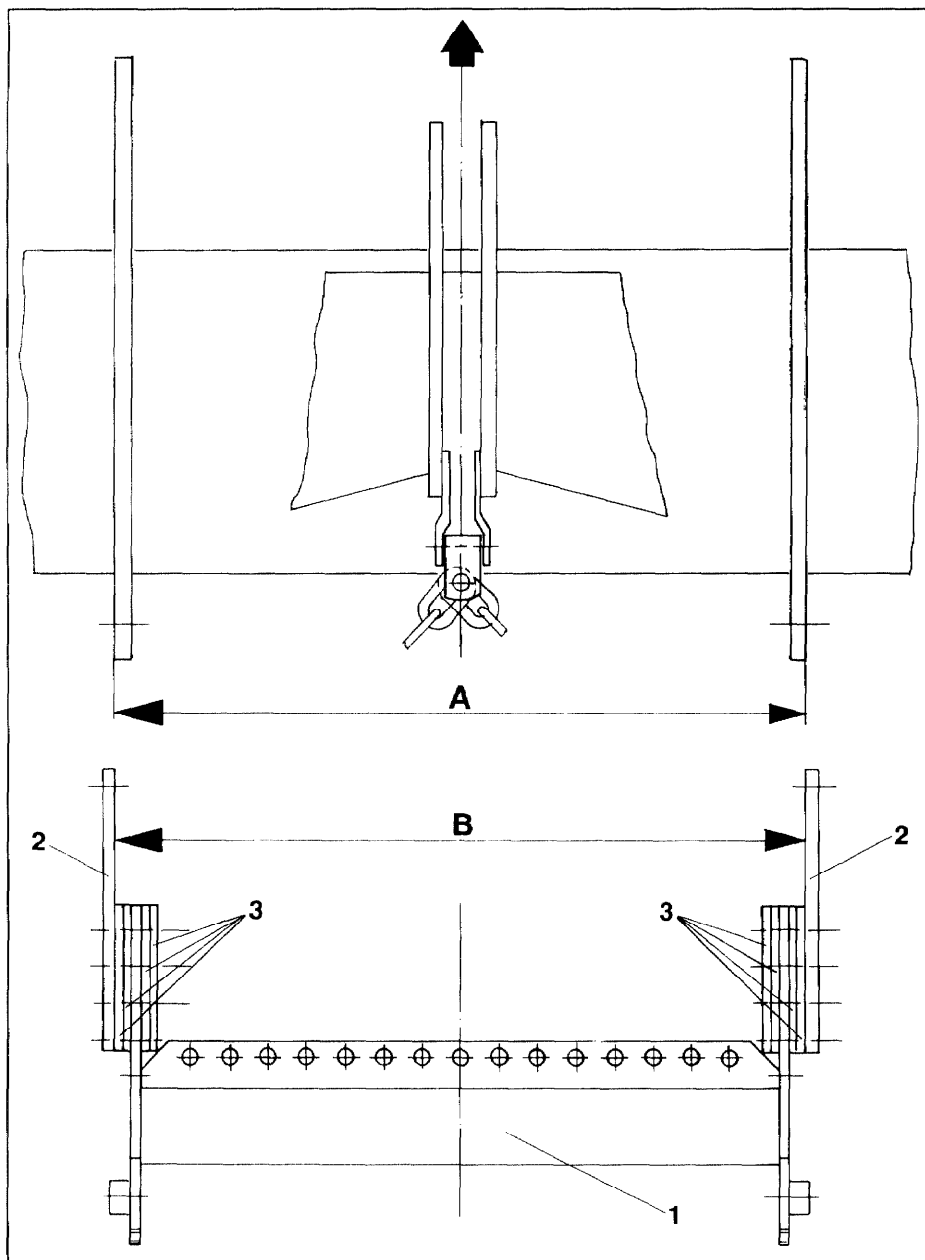
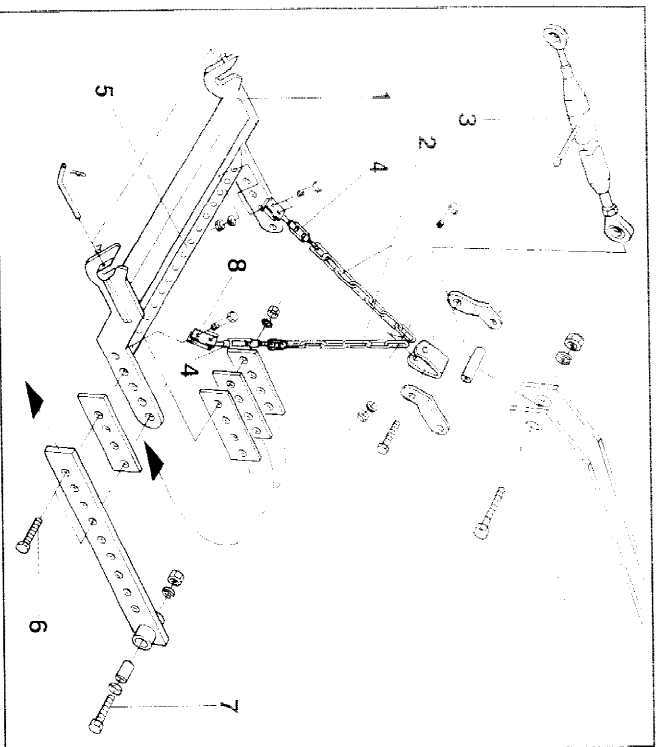
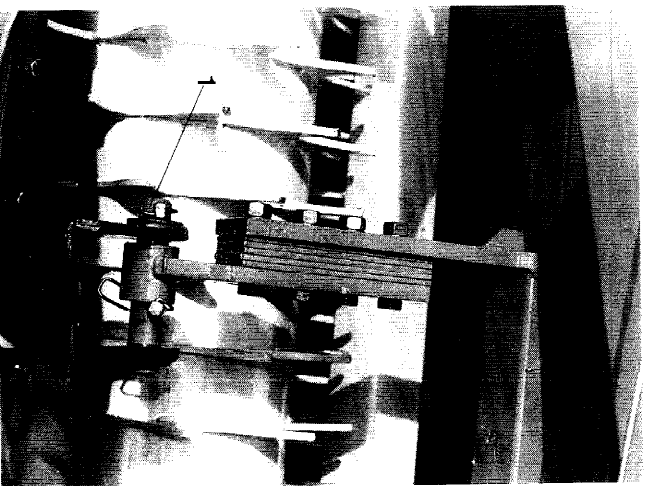

Fig. 17
Fig. 19
Fig. 20
In order to be able to fit the coupling frame (Fig. 17/1) it is necessary first to determine the spacings "B" and "C" (see figures 17 and 18).
Determining the spacing "B" (see Fig. 17):
- Measure carefully spacing "A" (Fig. 17) of the lower rear linking point of your soil tillage implement.
- Bolt by at least two hex. bolts (Fig. 19/6) to either side of the coupling frame (Fig. 17/1) linking plates (Fig. 17/2) and spacer plates (Fig. 17/3).
Set spacing "B" by repositioning the spacer plates (Fig. 17/3).
Usually the determined spacing "C" cannot be set completely accurately. As a result of the groups of holes in the coupling frame (Fig. 17/1) and in the linking plates (Fig. 17/2) only lengths of about 50 mm steps can be set.
Fix coupling frame (Fig. 19/1) **centrally** to the rear lower linking points of the soil tillage implement. The coupling frame should be fixed (depending on the manufacturer) as shown in Fig. 19 and 20 either by bolts (Fig. 19/7) or pins (Fig. 20/1) pivoting, i. e. not rigidly to the lower links.
Fix two chains (Fig. 19/2) together with the turnbuckle (Fig. 19/3) to the top link. The chain ends are equipped with shackles. Fix to each Shackle one turnbuckle (Fig. 19/4). The turnbuckles should be fixed as far as possible to the outside of the hole bar (Fig. 19/5) of the coupling frame with the aid of the pulling links (Fig. 19/8). The pulling links should only then be affixed more towards the centre if any parts of the machine are in the way making affixing to the outer area impossible.